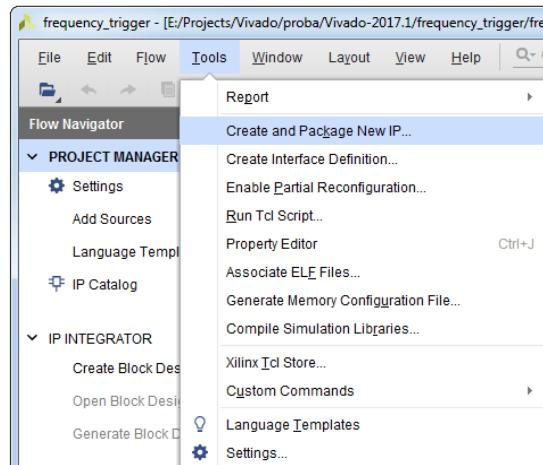

Figure 12.14: Create and Package New IP option
14. In the main Vivado IDE menu, select **Tools -> Create and Package New IP...** option, see Figure 12.14.